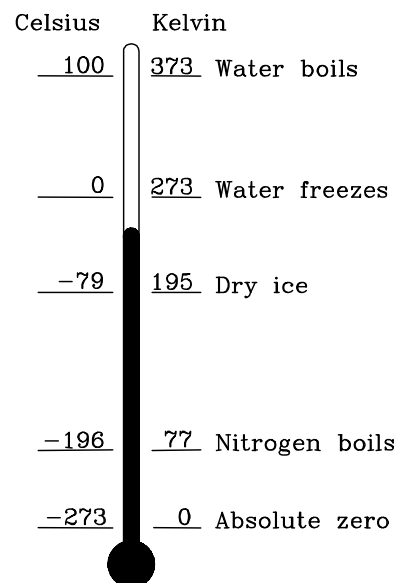

Figure 1. Thermometer Scale Conversion
**Kinetic Gas Theory** tells us that the molecules of a gas are in constant thermal motion. As the temperature of the gas is lowered, the thermal motion becomes slower and slower. There must exist a lowest temperature, an absolute zero of temperature, at which all thermal motion has come to a stop. In an **Absolute Temperature Scale**, this point is chosen as zero. For the **Kelvin Scale** (Lord Kelvin, 1824 - 1907), the increments are taken over from the Celsius scale, i.e. a temperature difference of one Kelvin (notation: 1 K, *not* 1 degree K or °K) is the same as a temperature difference of 1 °C.4 The Celsius and Kelvin scales (see Fig. 1) are related by the following expression: